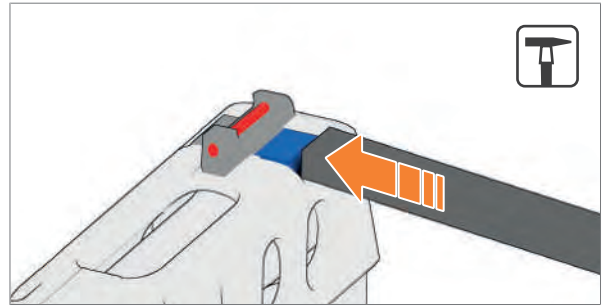

Fig. 33: Remove front sight
3. Remove front sight with tool (Fig. 33).